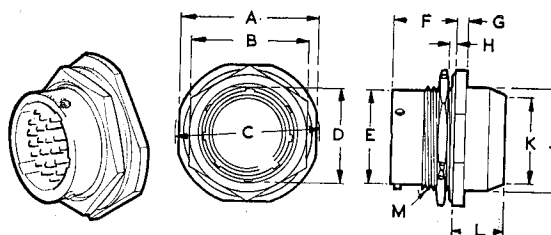

Fig. 12. Jam nut receptacle for potting, Type BT07P (MS3114P)
**Jam nut receptacle for potting, Type BT07P (MS3114P) (fig. 12)**